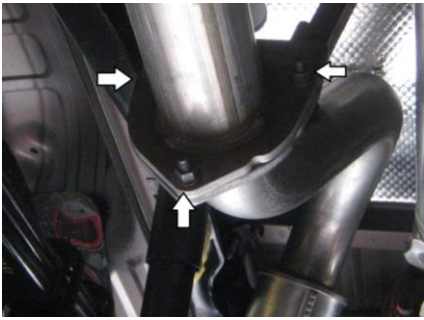
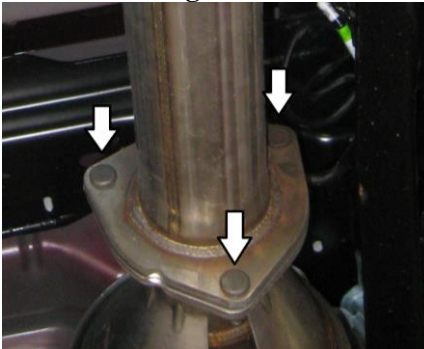

Figure 1
Figure 2
2. Loosen the three (3) nuts securing the extension pipe flange to the over-axle pipe. **Refer to Figure 1.**
**Refer to Figure 1.**
4. Loosen the three (3) nuts securing the extension pipe to the flange directly behind the exhaust filter and remove the extension pipe.
**Refer to Figure 2.**